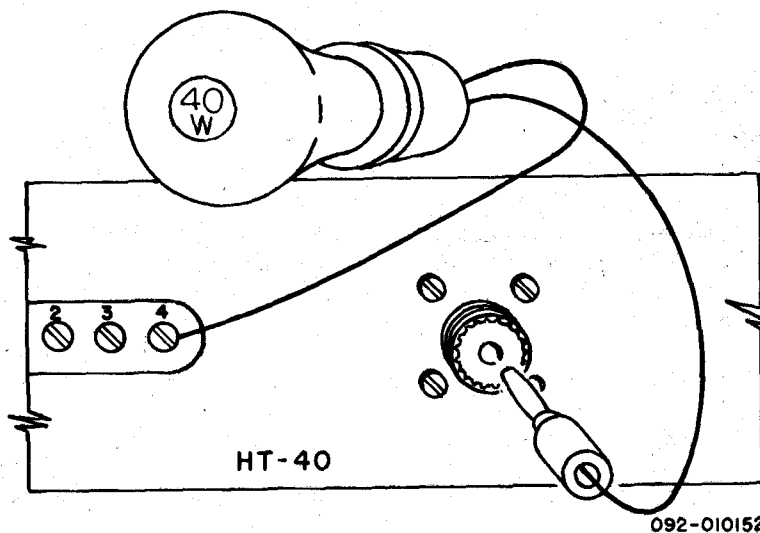

Figure 28. Light Bulb Used as Dummy Load.
1. 50 ohm non-inductive dummy load or a 40 watt light bulb (see figure 28). *SEE SPECIAL NOTE #1*